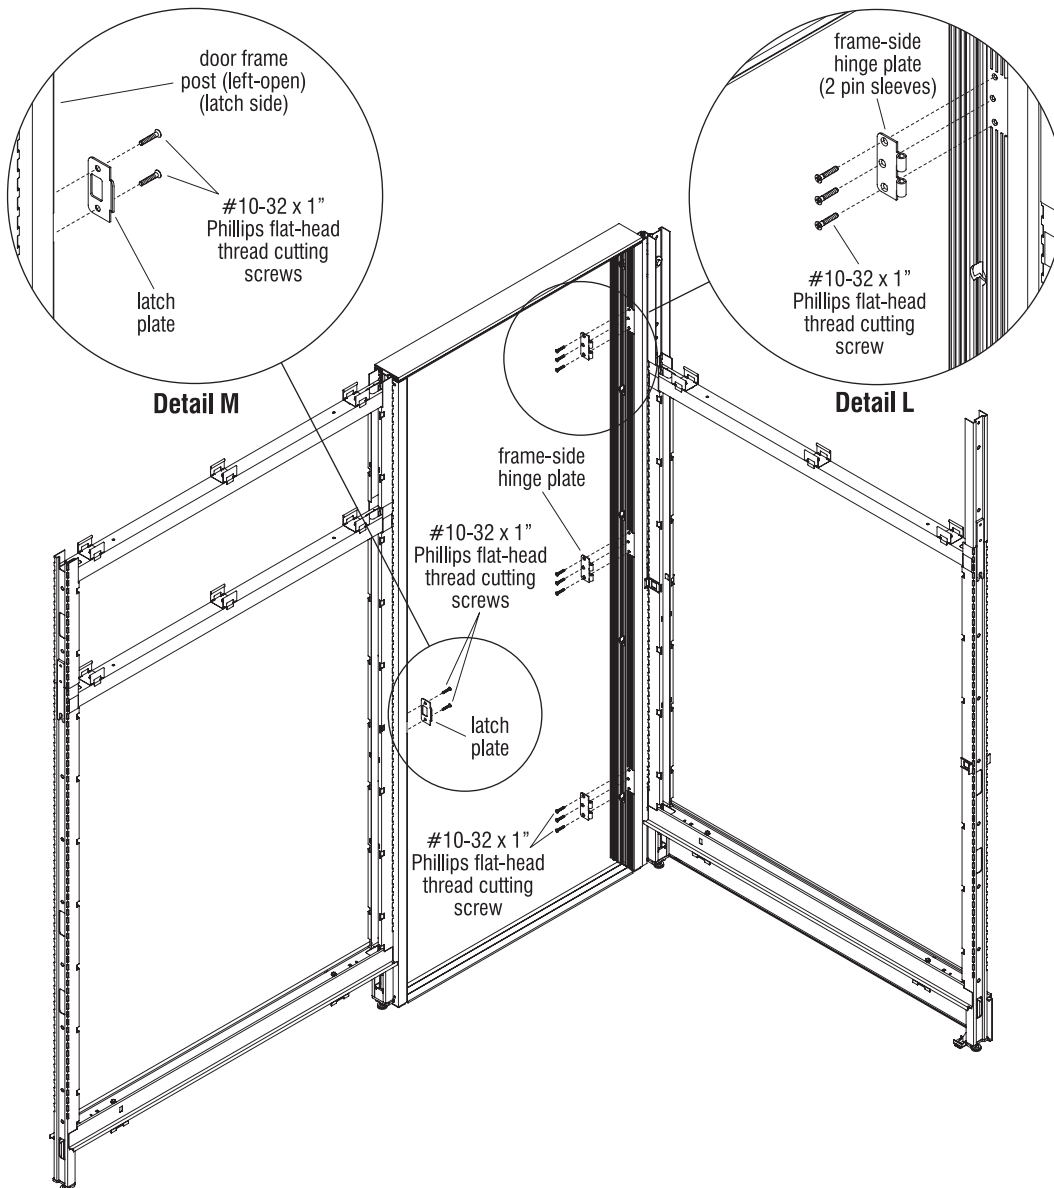

Figure 5
13. Install three frame-side hinge plates (with two pin sleeves - Detail L) using #10-32 x 1" Phillips flat head thread-cutting screws provided. Be sure to secure screws tight into frame, but take care to not strip the threads (Figure 5 & Detail L).
14. Position latch plate to the other door frame post as illustrated, at the same side that hinges are installed to on the opposite door frame post, then install with two #10-32 x 1" Phillips flat head-thread cutting screws (Figure 5 & Detail M).